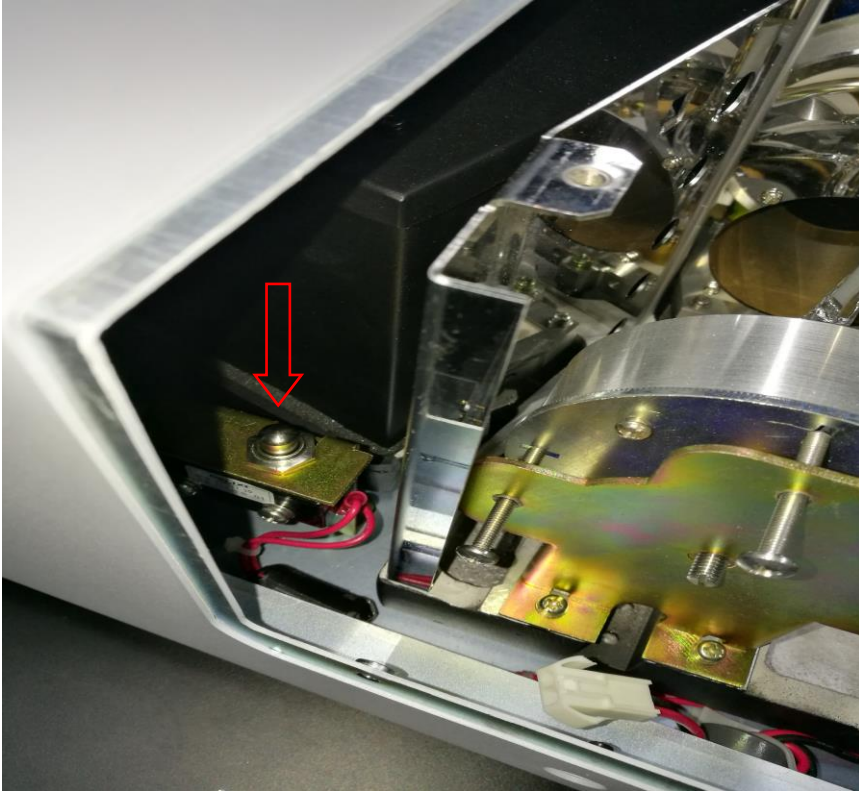

Figure 1-8 Install the inner cover of the lamp compartment
- 5) Install the inner cover of the lamp compartment. Be careful to press the light source safety Switch (Figure 1-8);